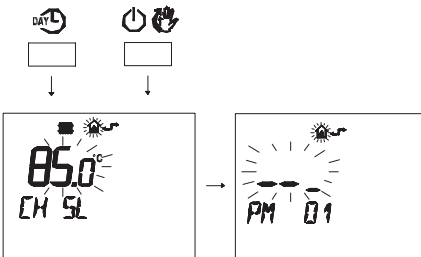

Fig. 7.40
- Press buttons **DAY** and **ON/OFF** at the same time to enter transparent programming (Fig. 7.40).